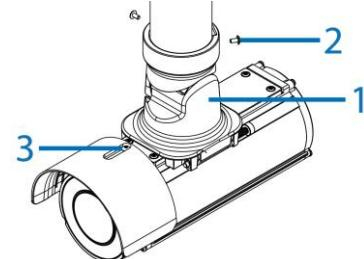

Figure 11
6. Place the mounting plate arm and camera into the pendant mount adaptor (1) (Figure 11) and securely attach the two M3x0.5P (L = 6mm) screws with the T10 security Torx wrench.
Note: When the camera is mounted inverted to a pendant 1 ½ " NTP pipe you must remove the sun shield hood by unscrewing the M3x0.5P (L = 8mm) screw with the T10 security Torx wrench (3) (Figure 11) and relocate the sun shield with screw as per the sun shield hood located in Figure 11.